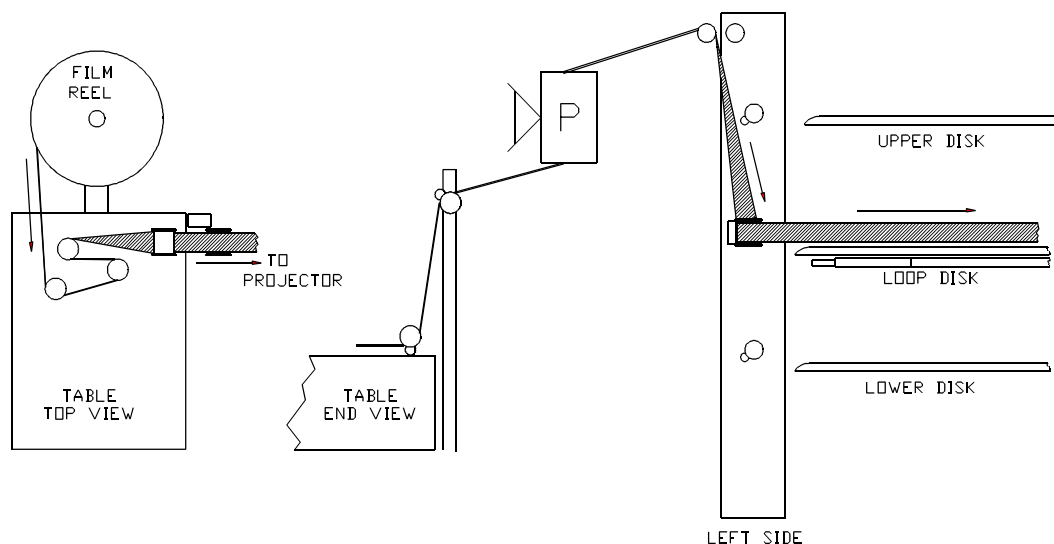

Figure 4
4. Place the program on the Table Make-Up Spindle (see Fig 4). The table will hold up to 17 3/4" diameter reels. Program Make-Up is explained in the Table operation manual.
- 13.. Thread the film from the Table through the Projector to the Loop disk as shown in Fig. 4, Page 4. Allow a sufficient length of film at the output of the projector to return to and make two revolutions around the Make-Up Guides.